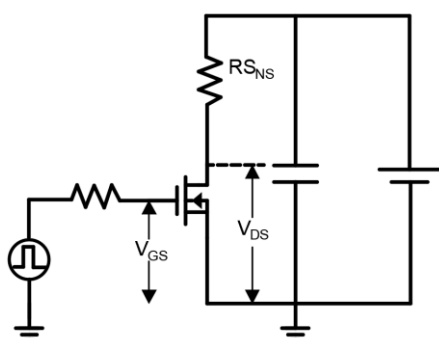

Figure 17. Dynamic $R_{DS(on)}$ Test Circuit
C. Dynamic on-resistance; see Figure 17 and 18 for test circuit and configurations